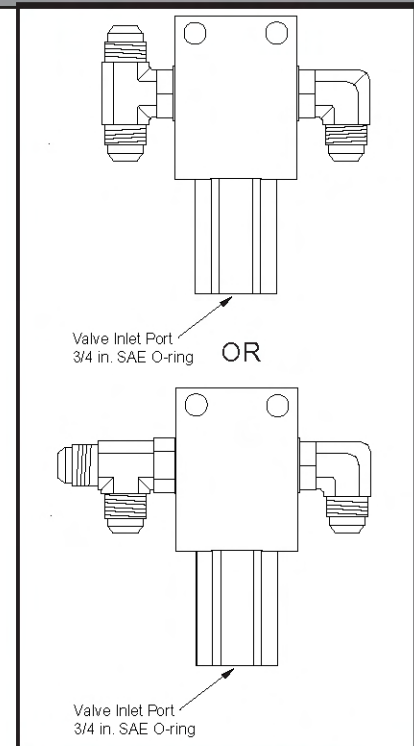

Figure 2. Valve inlet Port.
* Valve inlet port is 3/4 in. SAE O-ring. See Figure 2.